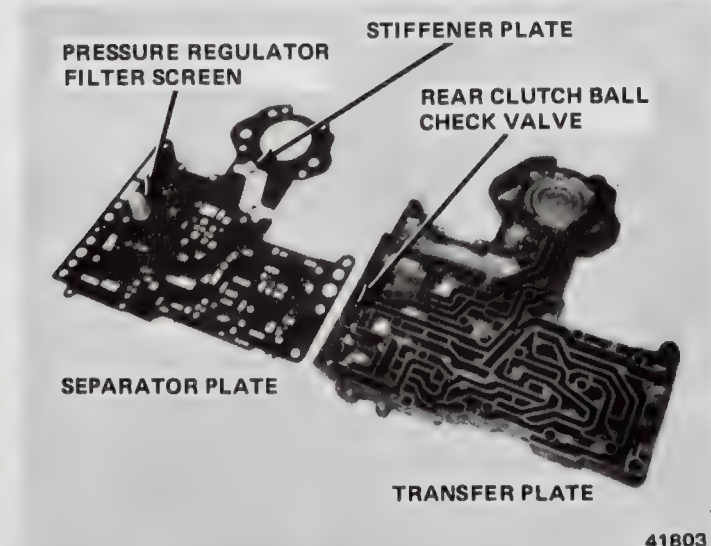

Fig. 2C-44 Transfer Plate Assembly—Model 904
(4) Remove spring retainer, line, and throttle pressure adjusting screws (**do not disturb setting**) and line pressure and torque converter valve regulator springs (fig. 2C-42). Tag springs for assembly reference.
(5) Remove torque converter and line pressure control valves.